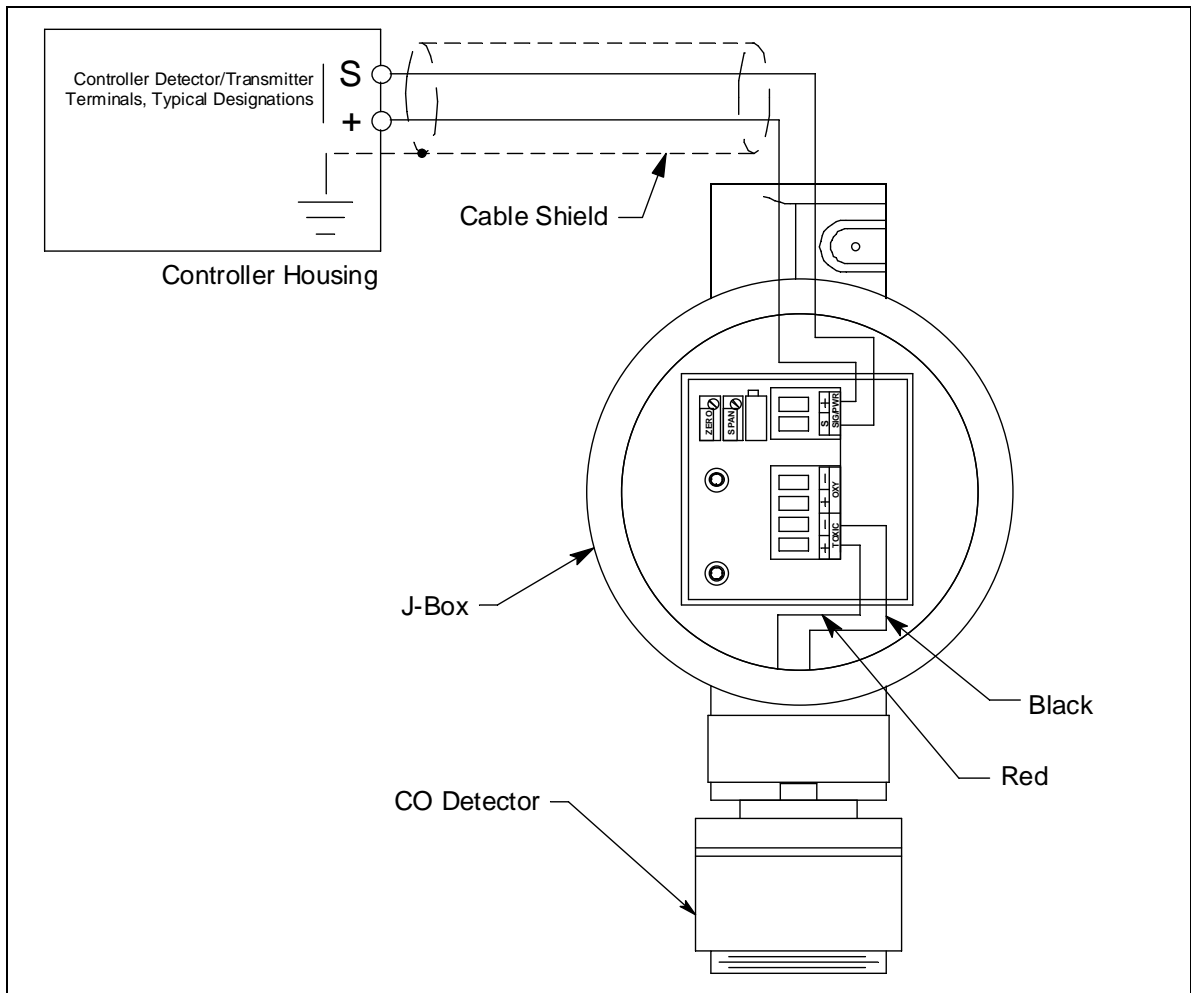

Figure 4: Wiring the CO Transmitter to a Controller
4. The detector leads are factory wired. Verify that the detector leads are wired to the amplifier's detector terminal strip as shown in Figure 4.
7. Pull out the controller terminal strip, and connect the two wires to the terminal strip as follows (see Figure 4).
11. Connect the wires to the applicable detector/transmitter terminal strip at the controller as shown in Figure 4.
8. Connect the detector leads to the appropriate detector terminal strip terminals. Connect the red wire to the terminal labeled TOXIC+ and the black wire to the terminal labeled TOXIC-. See Figure 4 for the detector wiring connections to the amplifier.